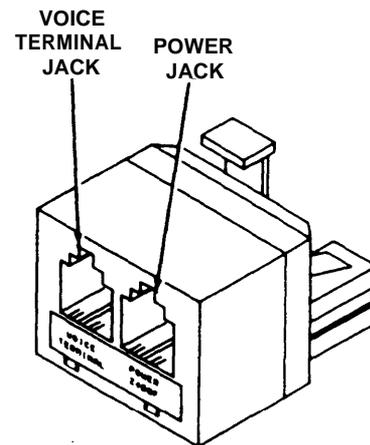

Figure 3
3. Plug the modular terminal cord into the voice terminal jack on the Z400F Adapter (Figure 3).
4. Plug one end of the D6AP Cord into the power jack (Figure 3) on the Z400F Adapter. Plug the other end into the output jack on the power supply.